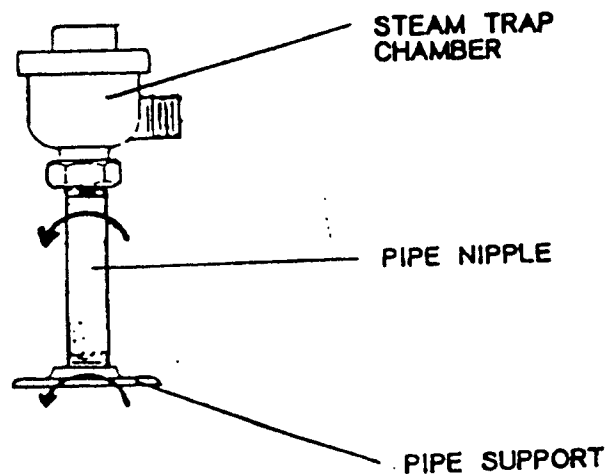

Figure 2-2. Steam trap Chamber and Pipe Support Removal.
c. Steam Trap Chamber and Pipe Support Removal: Unscrew the pipe support and the steam trap chamber from the pipe nipple (figure 2-2). The pipe nipple will be replaced with the steam collection assembly.